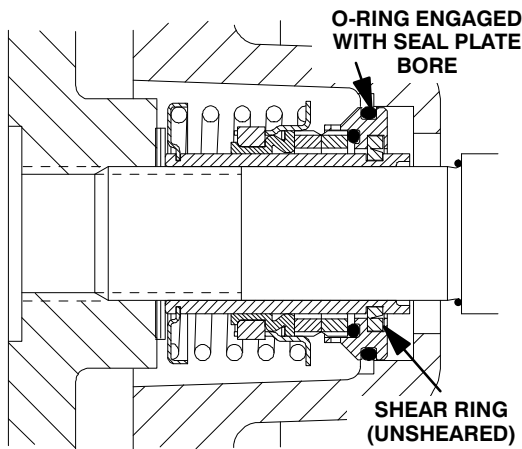

Figure 7. Seal Partially Installed
Clean and inspect the impeller as described in **Impeller Installation and Adjustment**. Install the full set of impeller shims (2) provided with the seal, and screw the impeller onto the shaft until it is seated against the seal (see Figure 7).